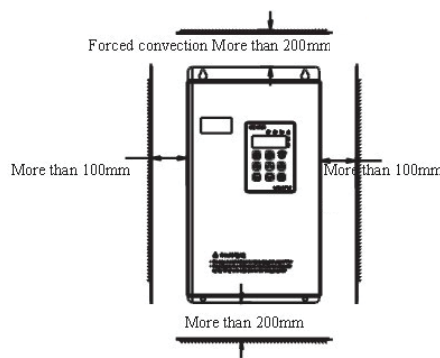

Fig. 3-1 Mounting space and distance
(1) Generally in vertical way.
(2) For the requirements on mounting space and distance, refer to Fig. 3-1.